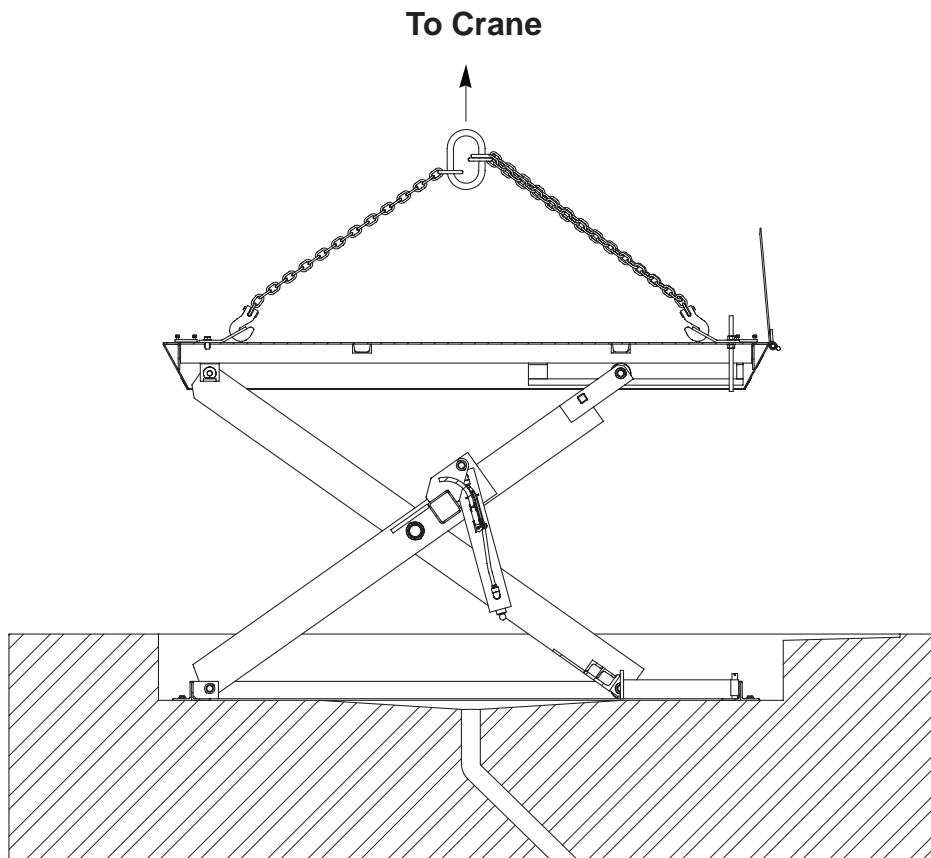

FIGURE 8 - CRANE LIFTING
6. Attach three-way lifting chain to lifting lugs and crane. See figure 8.
7. Raise dock lift to working height with crane and block at roller end with base mounted maintenance strut. See figure 2 & 8. While raising the dock lift, the hydraulic lifting cylinders will be pulled off of their mounting angle. The cylinders should remain retracted. See figure 8. Keep tension on the lifting chains while working under the dock lift.